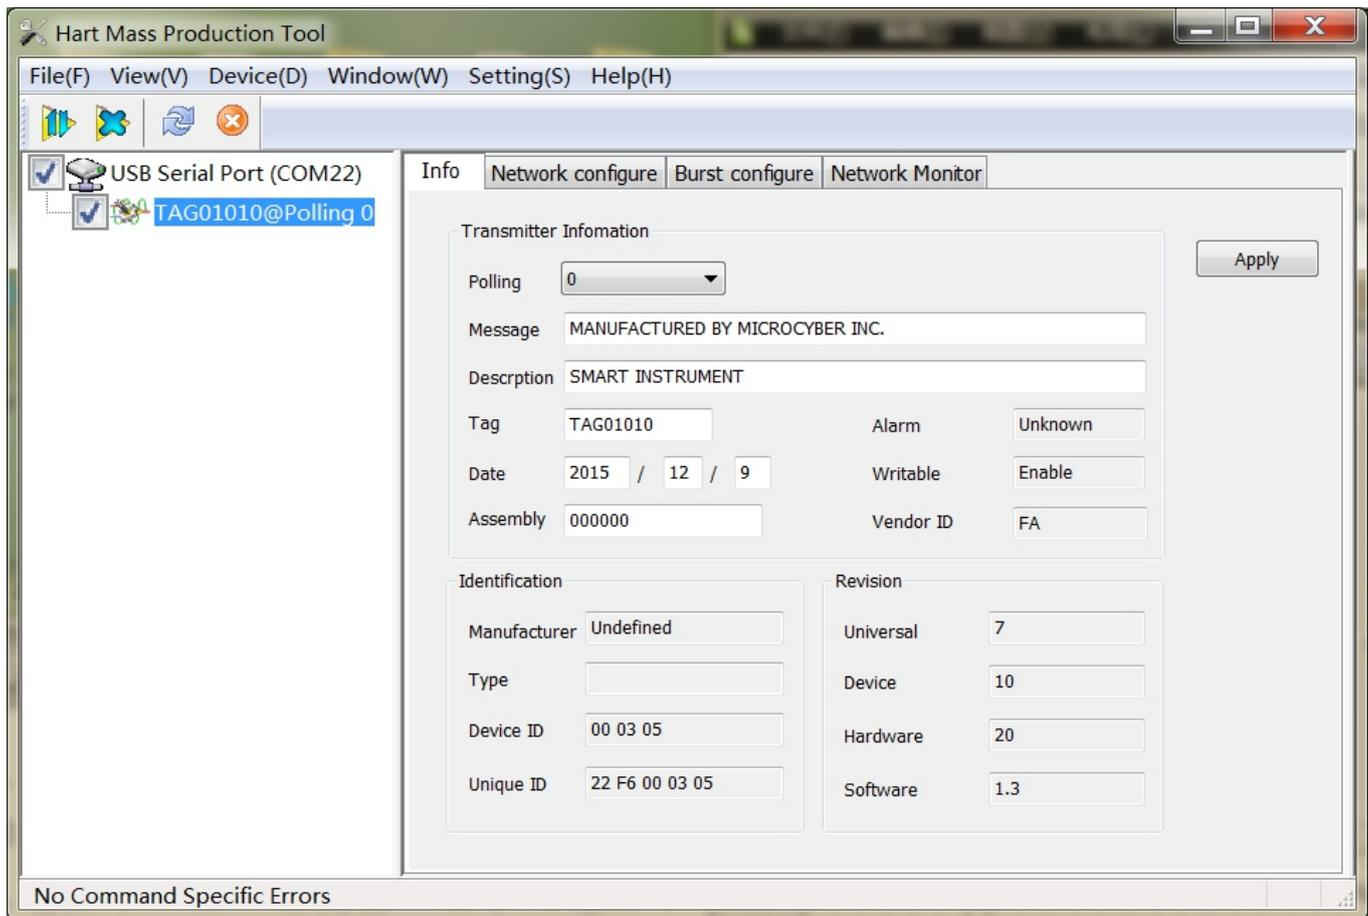
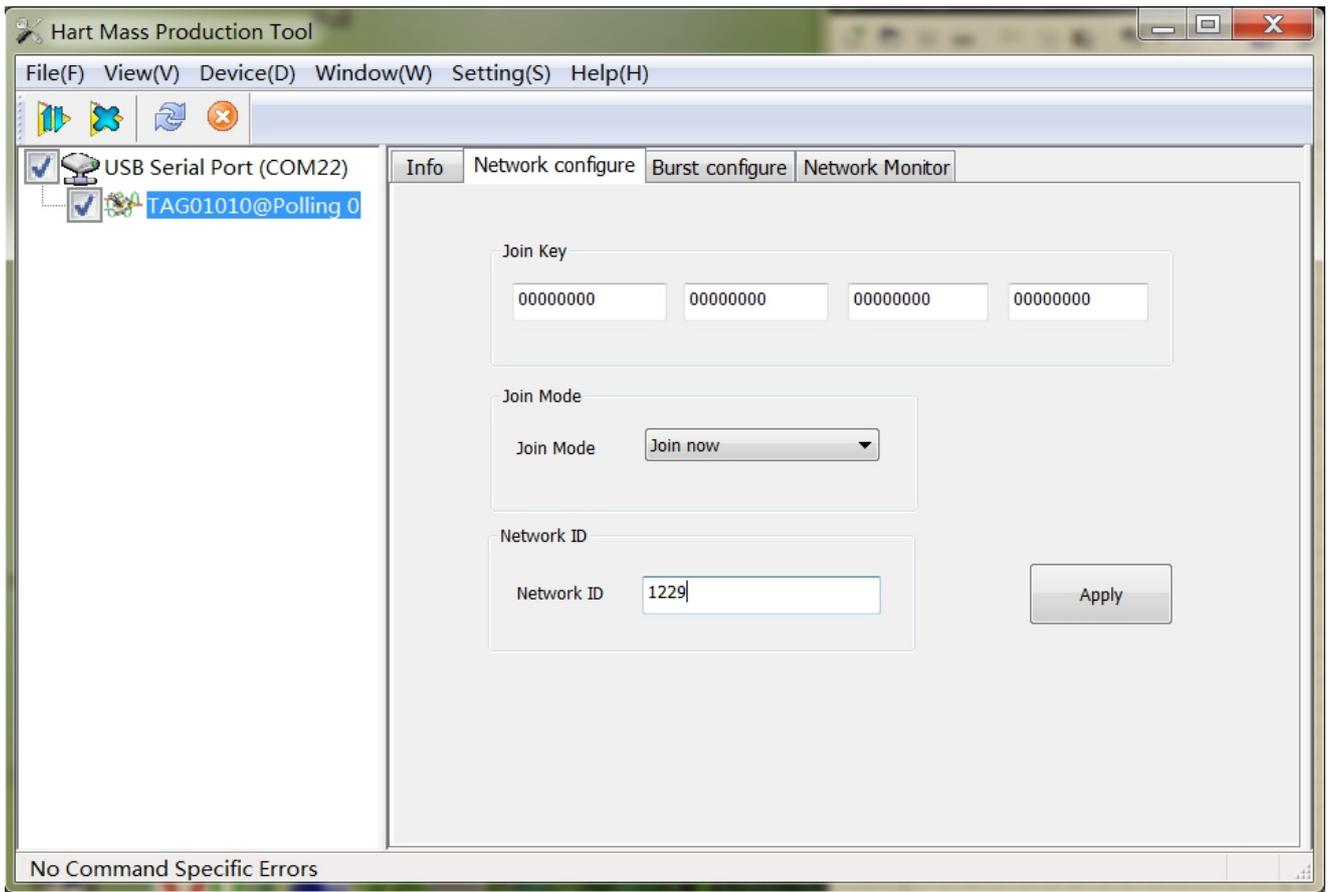
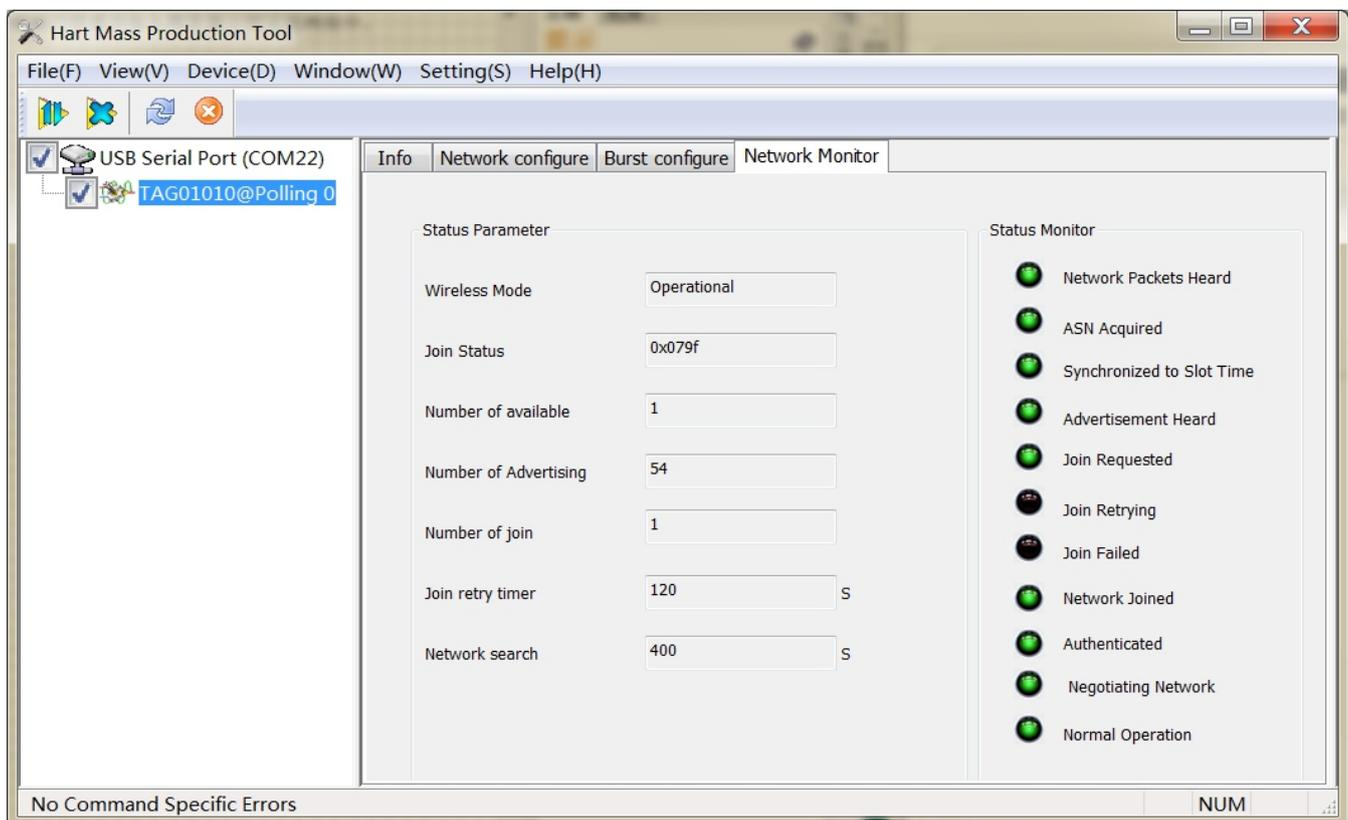

Figure 11 Device basic information page
Figure 12 Configuration of network
Figure 13 Network monitoring interface
3. When device is successfully searched, left-click the device tag  TAG00000@Polling 0 on left window to enter the window as shown in figure 11. Then the read-write operation for WirelessHART module's parameter begins.
4. Click “Network configure” column on right window of figure 11. Related information will be shown on configuration tool page, as shown in figure 12.
Click on the “Network Monitor” column as shown in the figure 12, then enter the interface as shown in the figure 13.